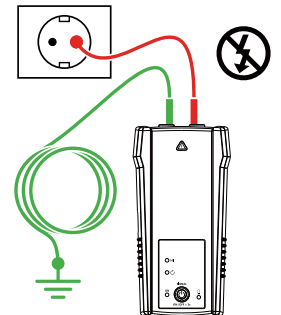

Figure 3.1c: Proper connection with separate ground
ATTENTION: Due to safety reasons in energized circuits the separate ground connection must always be connected to a well connected Protective Earth (PE) of an electrical installation (see figure 3.1c).